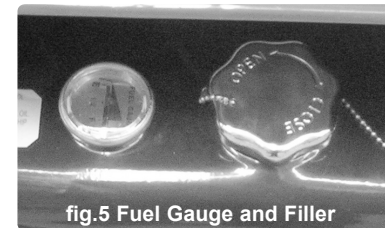

fig.5 Fuel Gauge and Filler
5.1.2 Fill the fuel tank (fig.5) with paraffin or diesel until the fuel gauge points to "F". **DO NOT** mix the fuels, always drain and clean out the fuel tank when changing type of fuel.